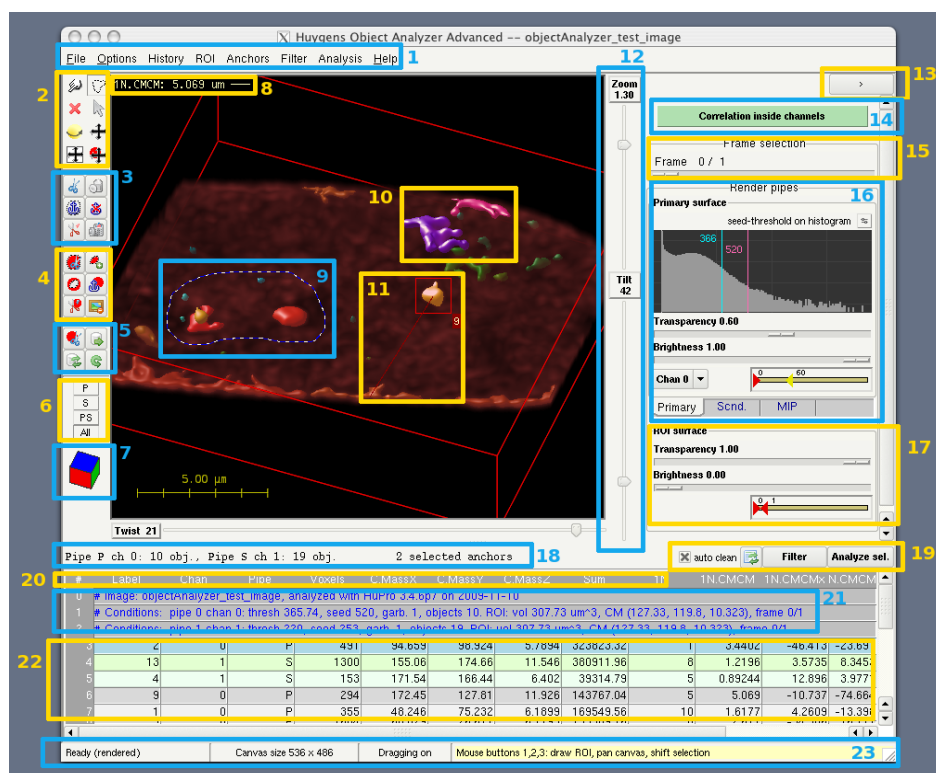

FIGURE 12.1. The Object Analyzer interface. Different regions are enumerated to describe them in sections of this chapter.
The OA main window is shown in Figure 12.1 with most of its components in an active state. Different regions of the interface are enumerated to describe them conveniently along this chapter.
For the advanced users: some of these mouse modes have 'shortcuts' in other mouse modes. Most of the times you can 'pan scene' independently of the selected mouse mode if you use your mouse right button instead of the left one. Similarly, you can 'pan canvas' using the middle button at any time. You will learn this with practice if you need it, but you don't have to care about it right now. When a mouse mode is active and the cursor is inside the canvas, the tooltip in the status bar (See Figure 12.1, item 23) tells you what each mouse button can do.